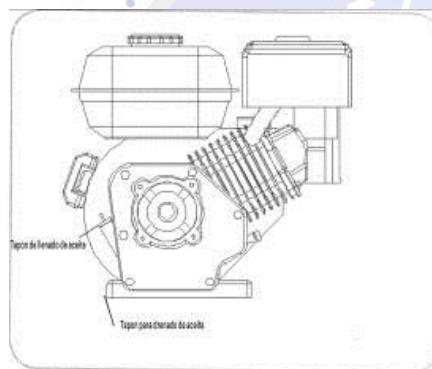

Figure 23
2. Unscrew oil fill cap from oil filler tube and wipe dipstick clean. See Figure 23